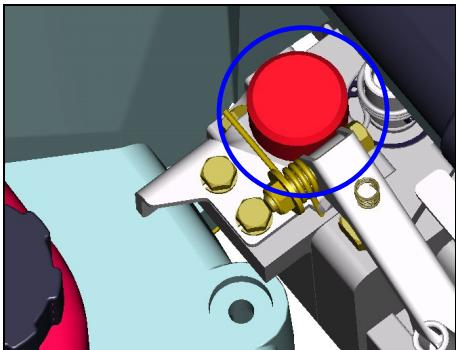
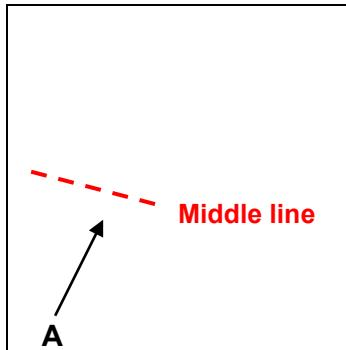

Fig. 22
Fig. 23
3. Secondly, replace the HST oil. Drain the bolt(fig. 21) and set the drain plug completely. Loose the Red plastic cap(fig. 22), pour the HST oil "VG46" or "SAE 10W30" 0.22 litters, and then set the red cap completely. If HST oil is lower than middle line(fig. 23), add HST oil up to middle line.
Before to loose the red cap, clean around the cap and be careful for interfusion of dust(fig. 22 & 23). Perform oil exchange, at a place without dust.